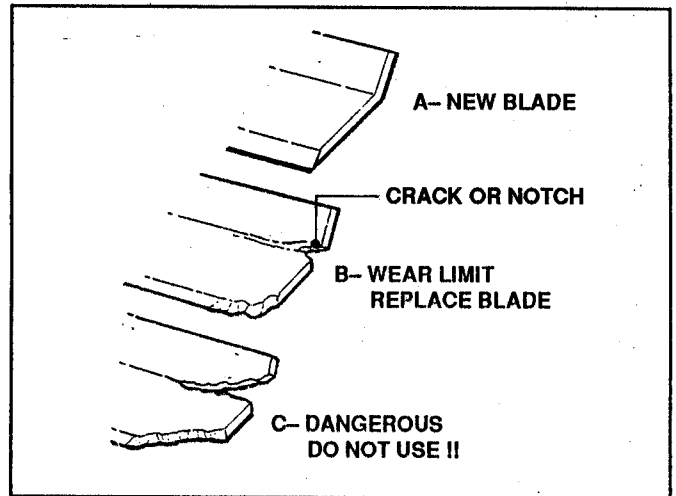

FIGURE 4.19
1. Inspect blade frequently for signs of excessive wear or damage. See Figure 4.19.
Never use a cutting blade that shows signs of excessive wear or damage on the Rear Engine Rider. Refer to Figure 4.19.
- Inspect condition of blade. Refer to Figure 4.19.